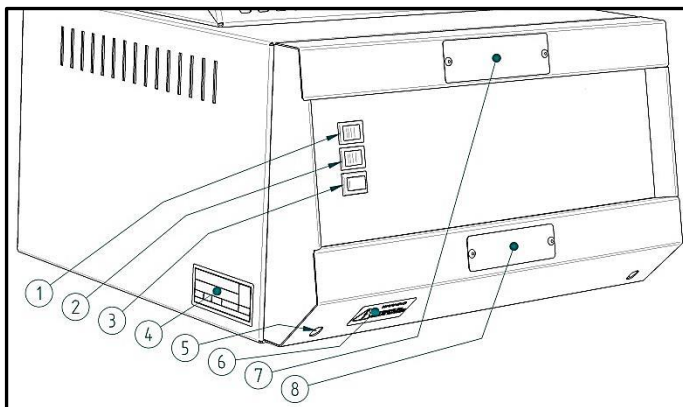
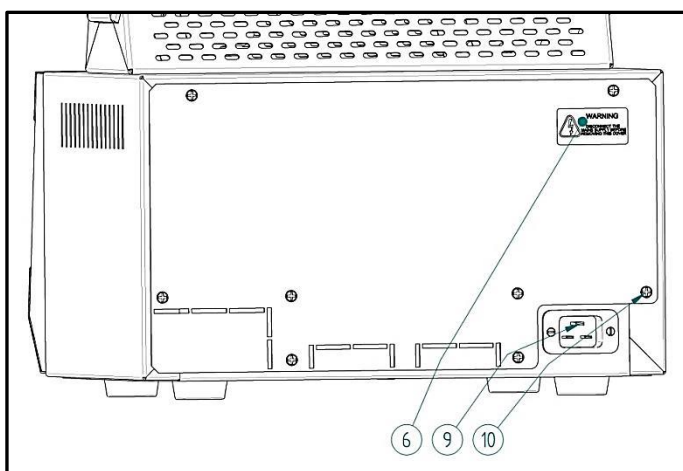

Figure 1-1. Control box layout and warning labels.
Figure 1-2. Back of control box showing mains lead socket
On the front control panel there are 2 warning labels as shown in Figure 1-1 page 3; they are numbered 7 and 8. These warnings must be followed for the safe operation of this furnace.
- 8- **Warning label - Switch off the furnace before loading and unloading.** The furnace heaters must be switched off using the heater switch item 2 in Figure 1-1 page 3 when the furnace is being loaded or unloaded. The work tube can become electrically conductive at high temperatures, presenting a possible hazard to an operator that could cause serious injury or death if an element failed and collapsed onto a work tube and was not detected.
Index to numbered items in Figure 1-1 and Figure 1-2